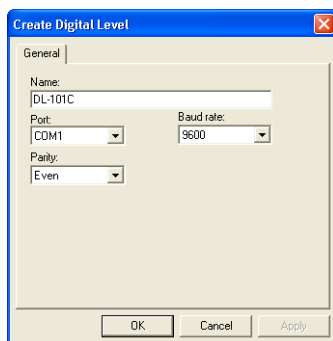

Figure 3-46. Digital Level Properties
4. Enter *Name*, the *Port* the device connects to, the *Baud Rate*, and *Parity* used for communication (Figure 3-46). Click **OK**.